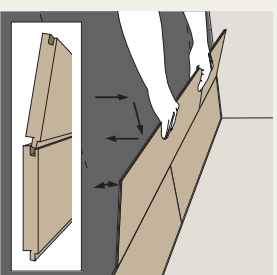

Figure 4
**8** Fit the second row as you did for the first: start on the left side and slide the groove of the panel under an angle of about 25° over the tongue of the previous row and click the groove into the tongue by laying down the panel while pushing it firmly against the first row. Figure 4